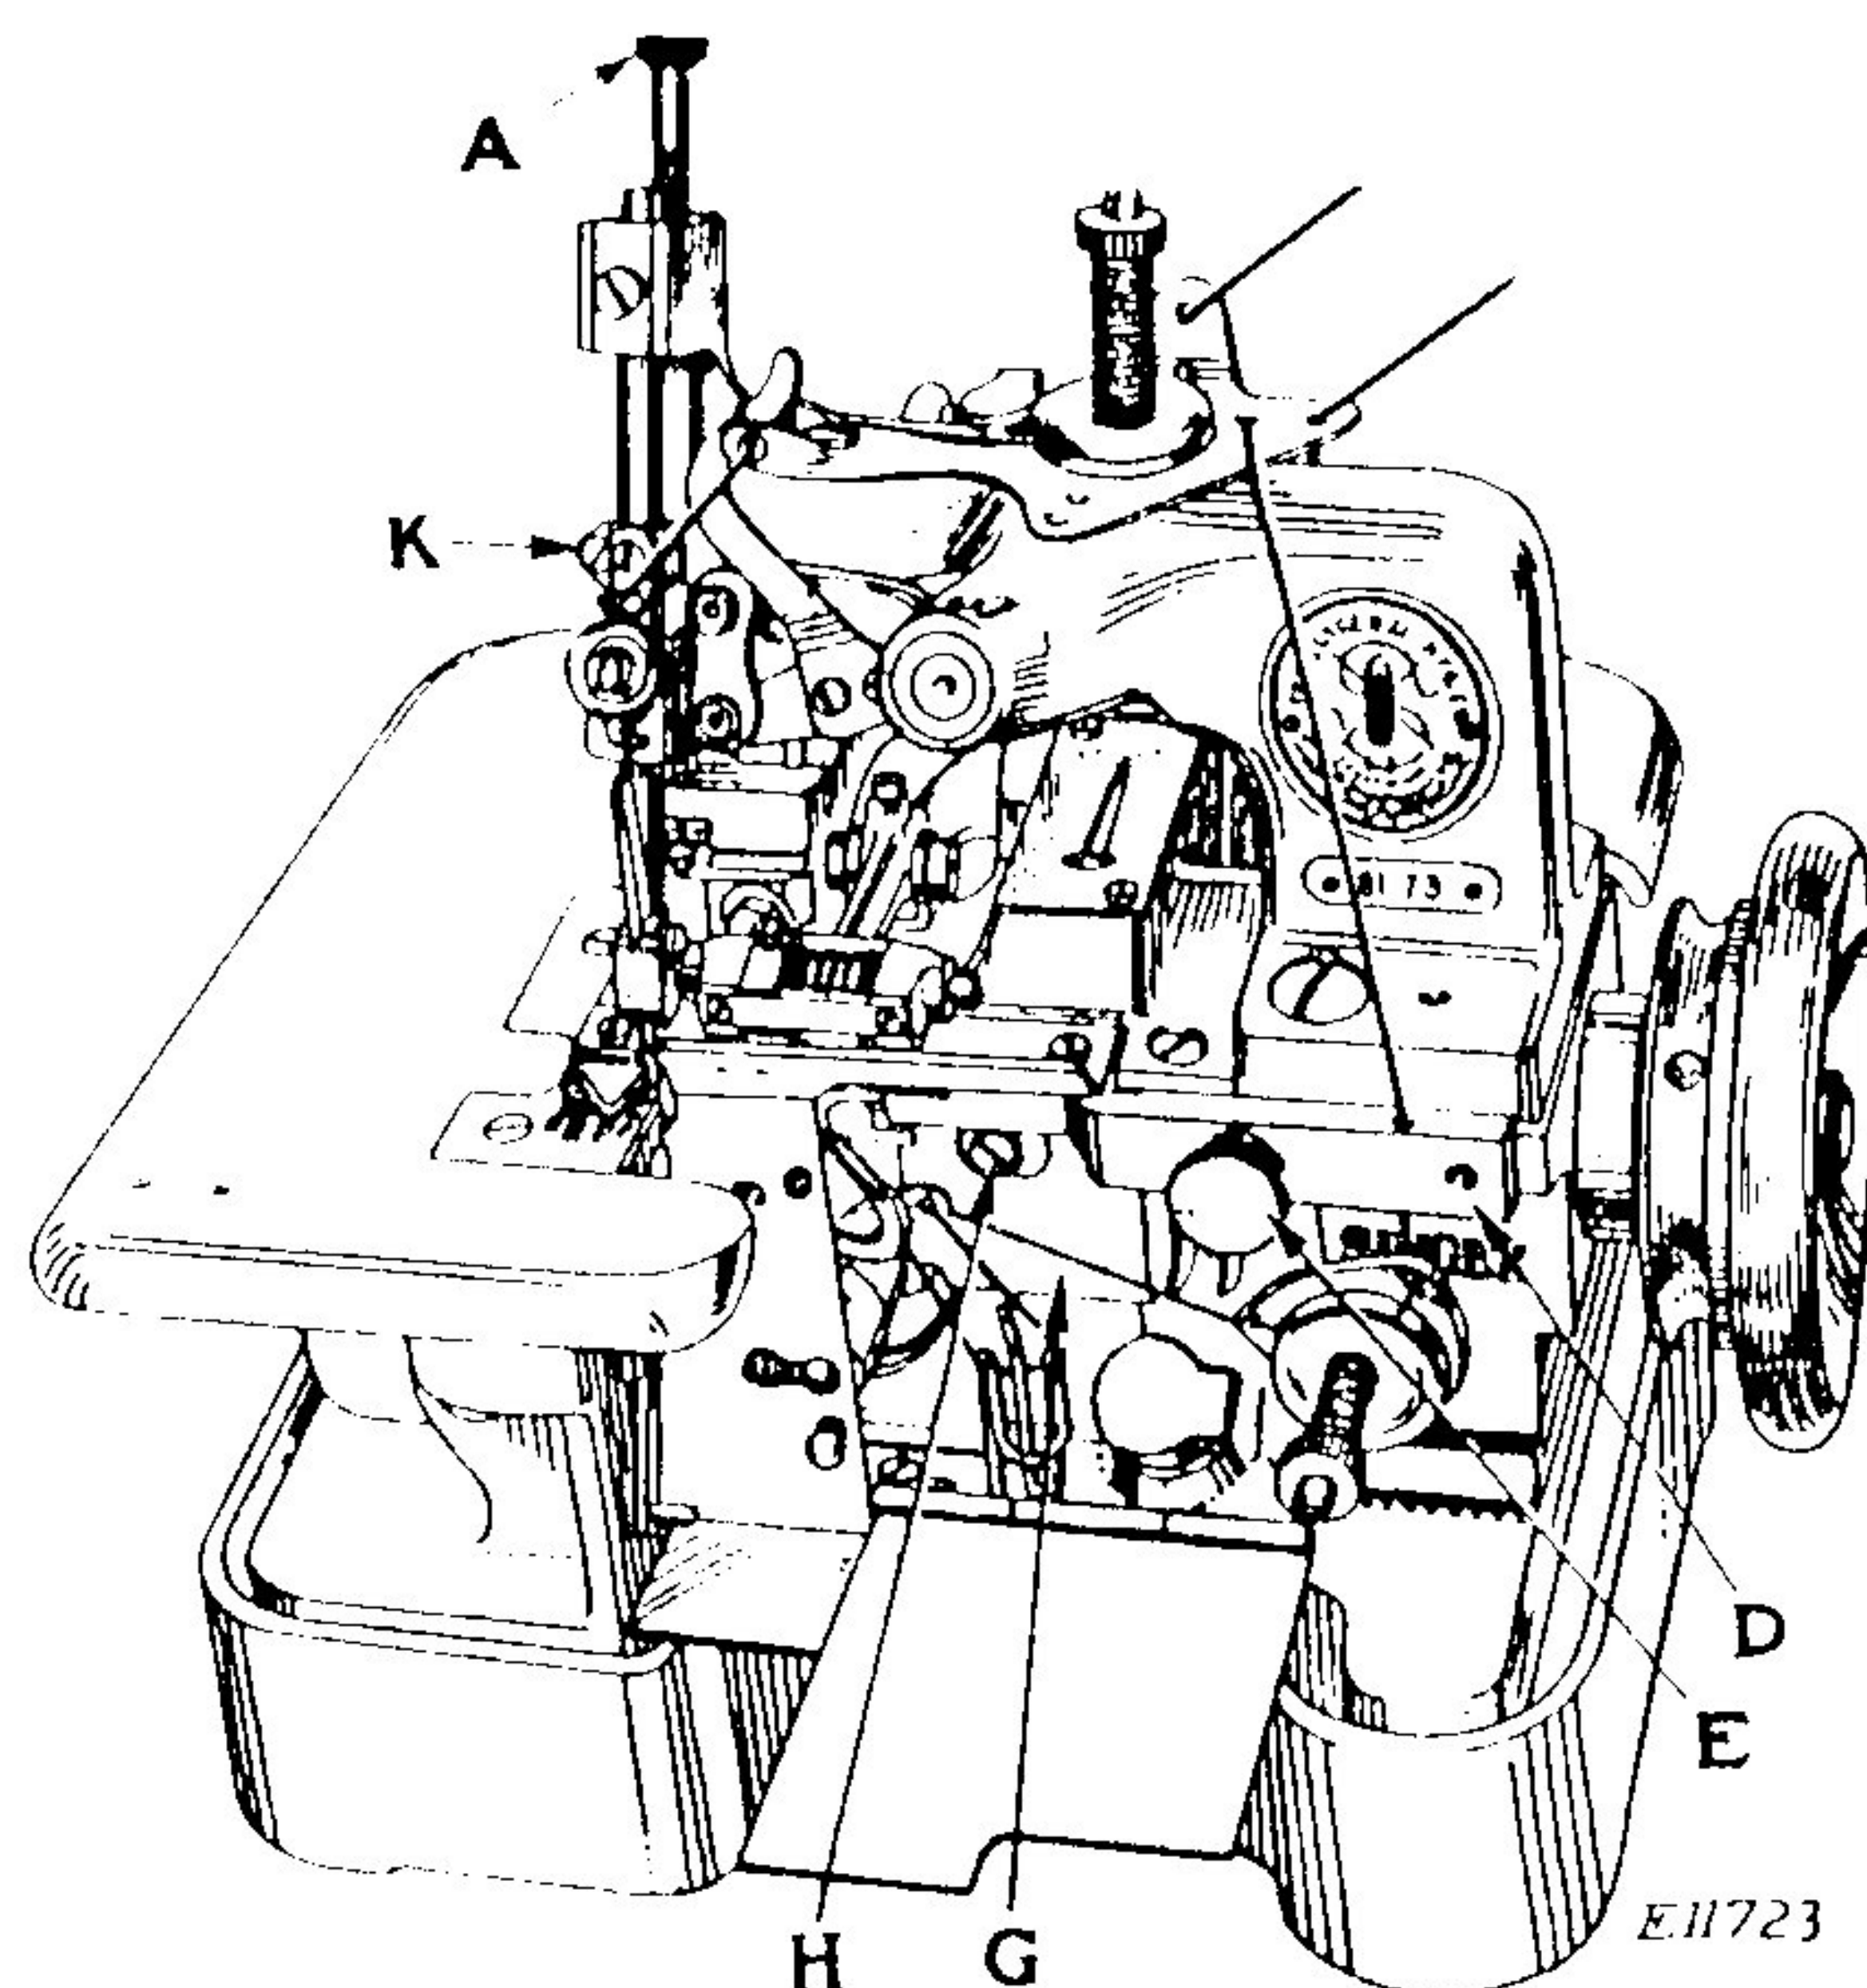
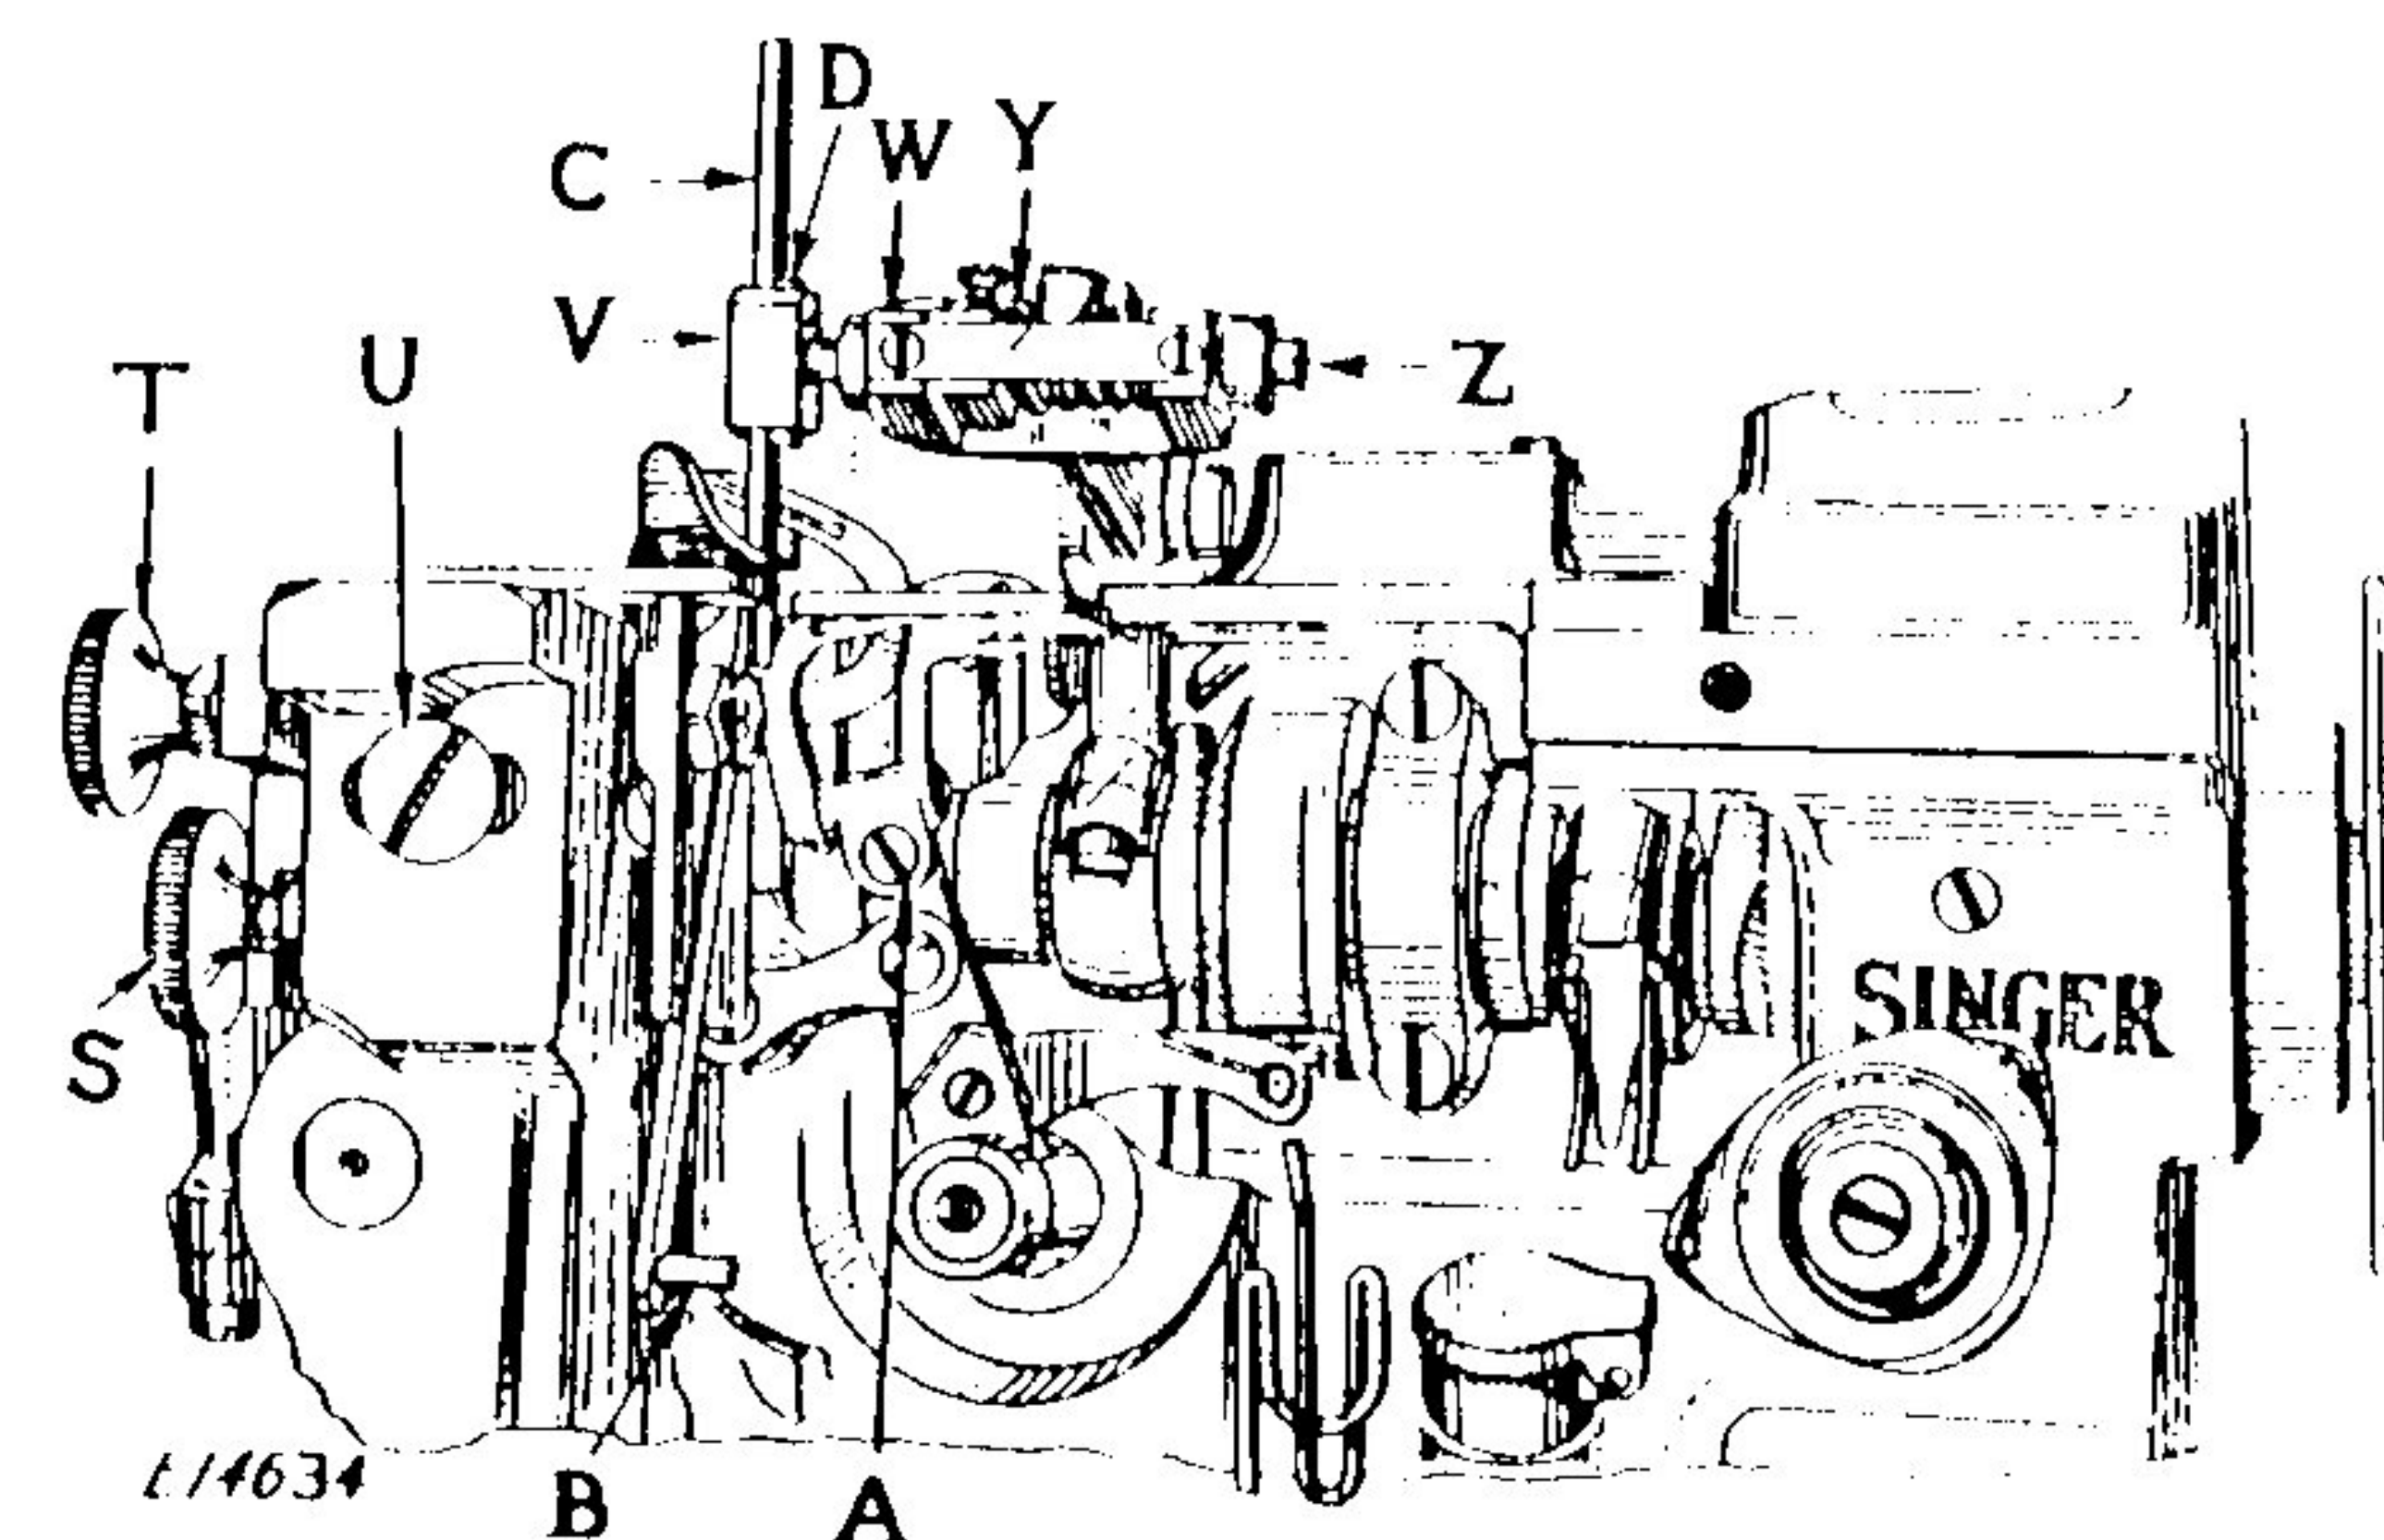

FIG. 13. ADJUSTMENTS ON THE MACHINE
FIG. 16. ADJUSTMENTS ON THE MACHINE
The pressure on the material is regulated by means of the thumb screw (A, Fig. 13). To increase the pressure, turn this thumb screw downwardly. To decrease the pressure, turn the thumb screw upwardly.
The length of stitch is regulated by means of the adjusting screw (H, Fig. 13) in the feed eccentric. **This screw faces directly outward.**
To change the length of stitch, turn the balance wheel until the lock screw in the feed eccentric appears in the hole of the cover (G, Fig. 13). **This screw faces slightly downward.** Loosen the lock screw. Then turn the balance wheel until the adjusting screw (H) is visible through the hole in the cover (G). Turn the adjusting screw (H) over to the right for a long stitch. Turn this screw over to the left for a short stitch. Then turn the balance wheel over until the lock screw appears and securely tighten this screw.
Now turn the balance wheel over from you until the needle bar has risen $\frac{3}{32}$ inch from its lowest position. The point of the left hand looper, on its loop taking stroke, should then be at the center of the needle, and the eye of the needle should be about $\frac{1}{16}$ inch below the looper point. If the needle bar is not at the correct height, loosen the pinch screw (K, Fig. 13) and move the needle bar upward or downward as required, then securely tighten the pinch screw (K).
The left hand looper should be set in the looper carrier by means of the screw (A, Fig. 16), so that the point of the looper on its loop-taking stroke passes as close as possible to the needle without striking it. The point of the right hand looper or spreader should pass at the recess back of the left hand looper eye as close as possible without touching it.
The lower knife (B, Fig. 16) should always be fastened in position when removing or replacing the upper knife. The lower knife is adjustable to the right or left and its position governs the position of the upper one, also the width of bight on the goods.
To Remove the Lower Knife (B, Fig. 16), loosen the thumb screw (T, Fig. 16) and draw the knife downwardly.
To Replace the Lower Knife, have the presser foot and feed down, press the upper knife holder (V, Fig. 16) toward the balance wheel, and push the lower knife upwardly so as to touch the presser foot without lifting it, then tighten the thumb screw (T, Fig. 16).
To Adjust the Trimmer Sidewise, loosen the thumb screw (E, Fig. 13) and move the extension bracket (D, Fig. 13) to the right or away from the upper knife, loosen the screw (U, Fig. 16) and turn the thumb screw (S, Fig. 16) inwardly or outwardly until the trimmer is in the desired position, then securely tighten the screw (U). Move the extension bracket (D, Fig. 13) back toward the upper knife, leaving just enough clearance between the upper knife and the bracket so as to allow free movement of the upper knife, then tighten the thumb screw (E, Fig. 13).
To Remove the Upper Knife (C, Fig. 16), loosen the screw (Z, Fig. 16) at the end of the knife holder, press the knife holder (V, Fig. 16) toward the balance wheel and remove the knife.
When replacing the Upper Knife, have the knife holder in the lowest position and pressed toward the balance wheel, insert the knife and set it so that its cutting edge is just below the cutting edge of the lower knife, then tighten the clamping screw (Z, Fig. 16).
If the desired trimming margin cannot be secured by these adjustments, it may be obtained by removing the gib (D, Fig. 16) and replacing it at the **left** of the upper knife. The lower knife should then be adjusted accordingly.
When the knives are in contact, the space between the guide (Y, Fig. 16) and the knife lever (W, Fig. 16) should be about $\frac{1}{2}$ inch.